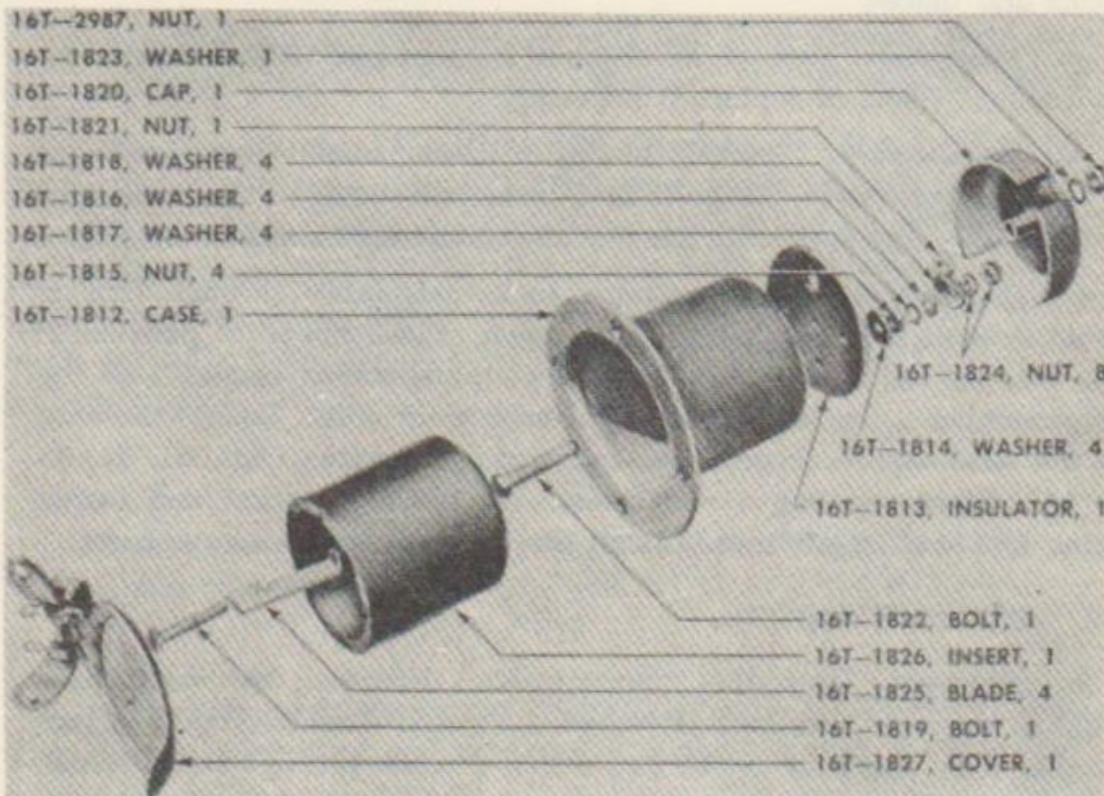

FIGURE 69. COUPLING SOCKET—EXPLODED VIEW
b. Disassembly (fig. 69). Remove nuts, washers and lock washers from terminal bolts. Lift off the fiber insulator and pull out the insert, bolts and blades.
d. Reassembly. Position blades in insert. Install insert into case. Place insulator over the bolts and fasten the bolts to the case using washer and nuts, following the sequence illustrated in figure 69.